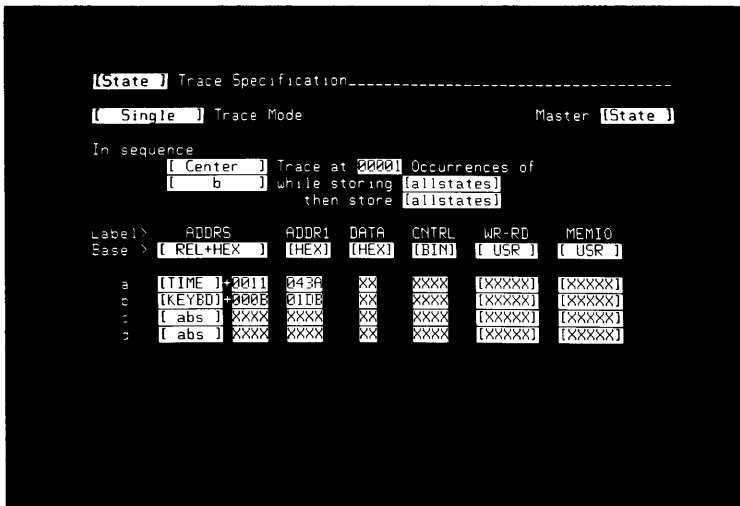

Figure 3-30. State Trace Specification With Trigger In Row “b”
5. Enter the module name and offset value you copied from the screen (use keyboard NEXT[] and hexadecimal keys). See figure 3-30.